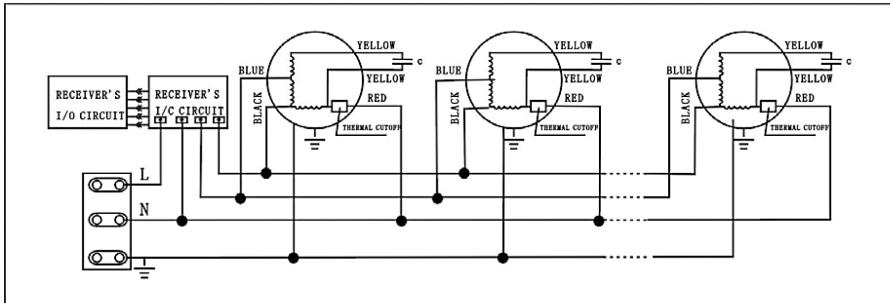

Fig. 11. Electric circuit for infrared remote control air curtains.
7.4.2 Electric circuit for infrared remote control air curtains is according to Fig.11.